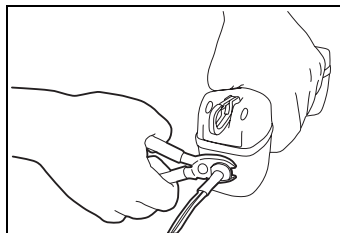

Figure 1. Removing the Strain Relief
- 1 Pull back the rubber end of the strain relief, on the outside of the housing at the base (Figure 1), and cut the line cord strain relief with wire cutters.
Make sure the line cord strain relief lies horizontally (Figure 1). The four dots on the flat portion of the line cord should be on the top or underneath if the cord is horizontal.